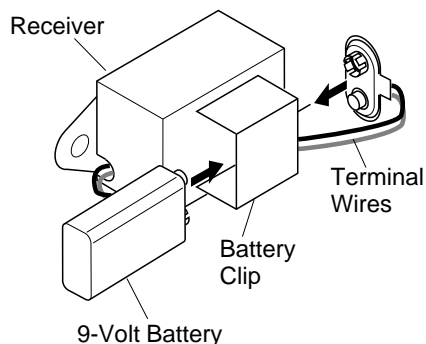

Figure 35 - Installing Battery in Receiver
4. Install battery into receiver battery clip and connect to terminals (see Figure 35).